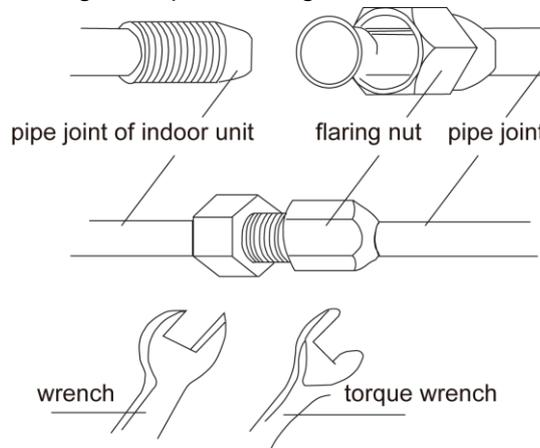

Fig.4.2
- (1) Aim the flaring port of copper pipe at the center of screwed joint and then tighten the flaring nut with hand as shown in fig 4.2.
- (2) Use a torque wrench to tighten up the flaring nut until the wrench gives out a click sound.